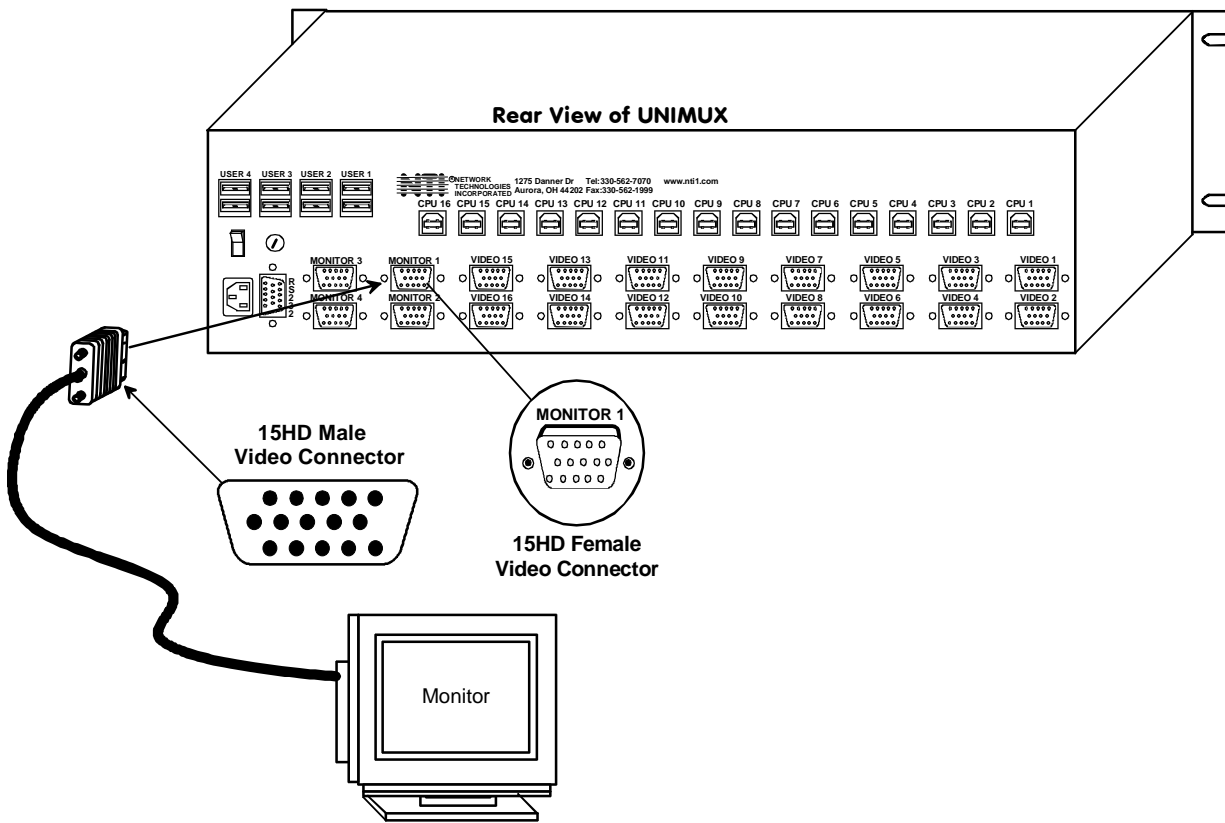

Figure 2- Install user monitor(s)
1. Connect the 15HD male cable end from each user monitor to the female 15HD ports labeled "MONITOR x" on the rear of the UNIMUX switch. See Figure 2.